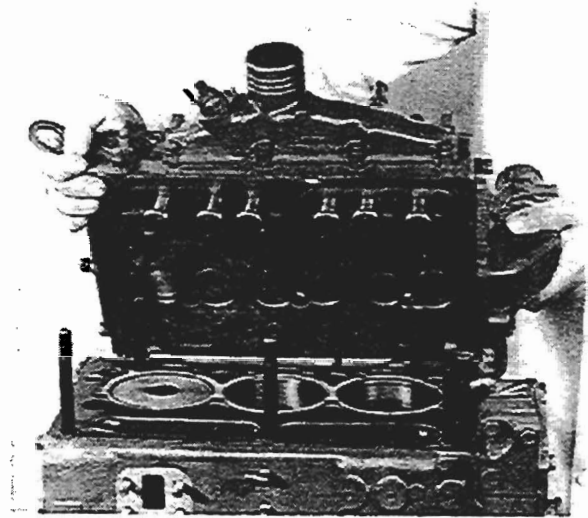

Fig. F4
16. Remove the cylinder head (see fig. F4) and put it on a flat wood surface to prevent damage. Do not use a sharp tool between the cylinder head and the cylinder block.